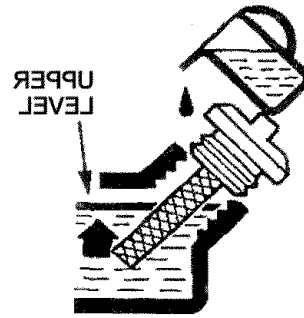

Figure 6- Proper oil level
2. Unscrew the oil filler cap from the engine crankcase as shown in figure 6.
NOTE: Even if you have previously measured 21 ounces of oil, some spillage is common when adding oil to the crankcase. Always ensure that the engine has sufficient oil by checking the dipstick. See Figure 6 for proper oil level.